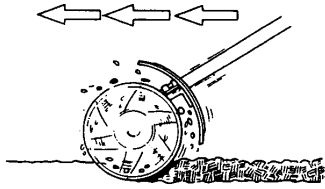
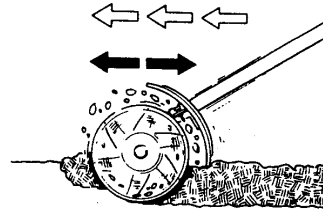

Fig. 7
Fig. 8
- b. For shallow tilling, move the unit quickly over soil surface. (Fig. 7) For deeper tilling, hold the unit over the same area with the gentle back and forth motion. (Fig. 8)